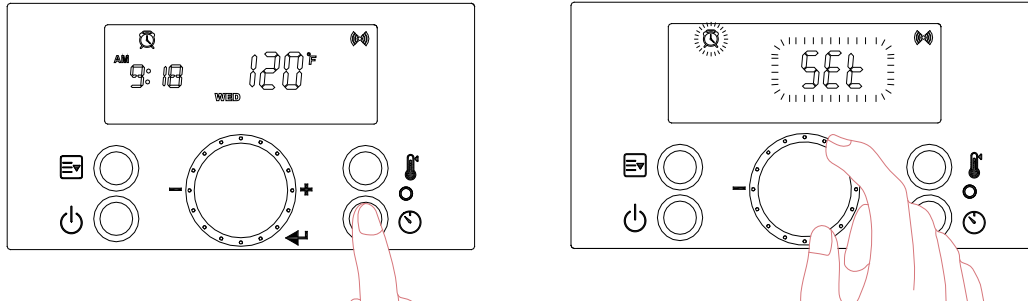

Figure 42 – Setting the Recirculation Run Time
- Turn the dial  until “SEt” flashes on the screen. Press the  button at the “SEt” screen to set the Recirculation Run Time. See Figure 42.